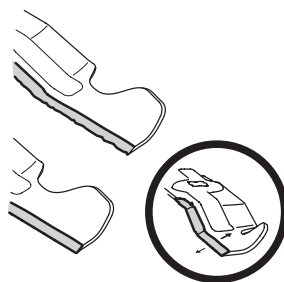

Figure 26
5. To properly sharpen the cutting blade, remove equal amounts of metal from both ends of the blade along the cutting edges, parallel to the trailing edge, at a 25° to 30° angle. Always grind each cutting blade edge equally to maintain proper blade balance. See Figure 26.